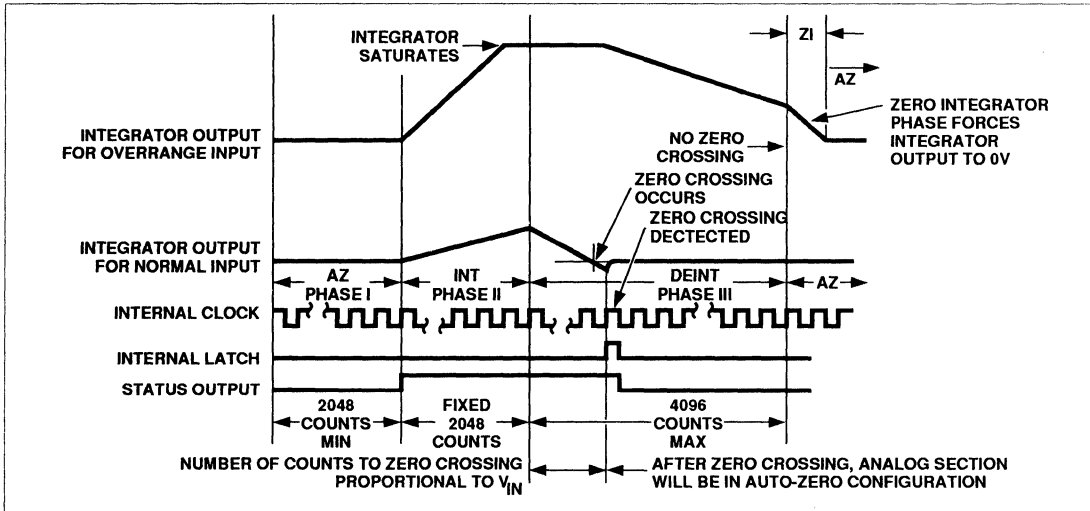

Figure 8 Conversion Timing (RUN/HOLD Pin High)
The Functional Diagram shows a block diagram of the Analog Section of the TC804. The circuit will perform conversions at a rate determined by the clock frequency (8192 clock periods per cycle), when the RUN/HOLD input is left open or connected to $V+$. Each measurement cycle is divided into four phases as shown in Figure 8. They are: (1) Auto-Zero (AZ), (2) Signal Integrate (INT), (3) Reference Deintegrate (DE), and (4) Zero Integrator (ZI).
During ZI, the reference capacitor is charged to the reference voltage. The signal inputs are disconnected from the buffer and integrator. The comparator output is connected to the buffer input, causing the integrator output to be driven rapidly to 0V (Figure 8). The ZI phase only occurs following an overrange and lasts for a maximum of 1024 clock periods.
During a conversion cycle, the STATUS output goes high at the beginning of Signal Integrate and goes low one-half clock period after new data from the conversion has been stored in the output latches. See Figure 8. The signal may be used as a "data valid" flag to drive interrupts, or for monitoring the status of the converter. (Data will not change while STATUS is low). Status is also output on Data Bit 8, when the TC804 is in direct mode (Mode = 0, LBEN = 1, HBEN = 0).
With RUN/HOLD high or open, the circuit operates normally as a dual slope A/D as shown in Figure 8. Conversion cycles operate continuously with the output latches updated after zero crossing in the deintegrate mode. An internal pull-up resistor is provided to insure a high level with an open input.